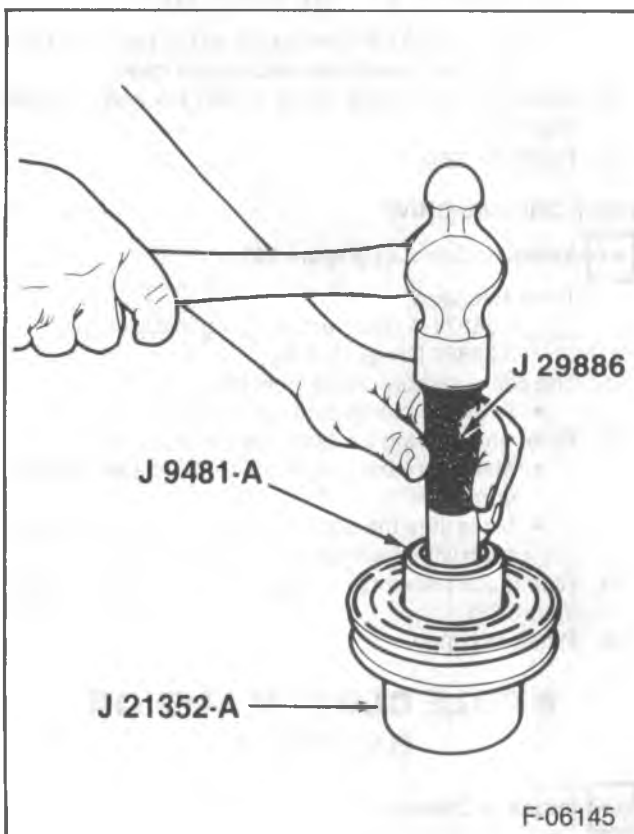

Figure 30—Bearing Installation
Install or Connect (Figure 30)
1. Pulley rotor on J 21352-A (Figure 30).